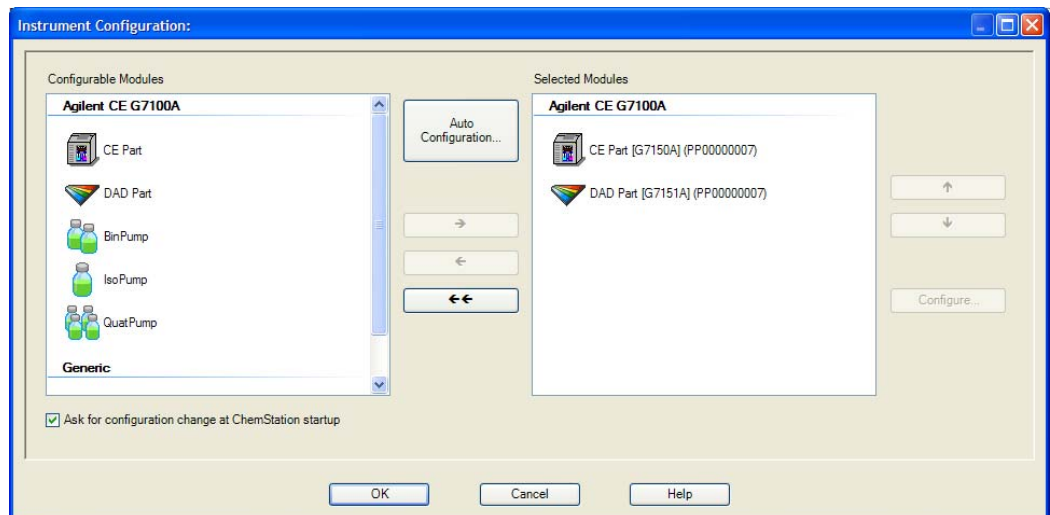

Figure 37 Configuration menu
- 5 Select under **Instrument** in the CE diagram the **Instrument Configuration** Menu, see Figure 37.